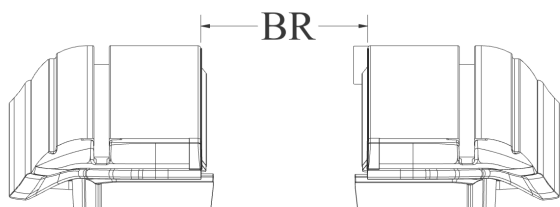
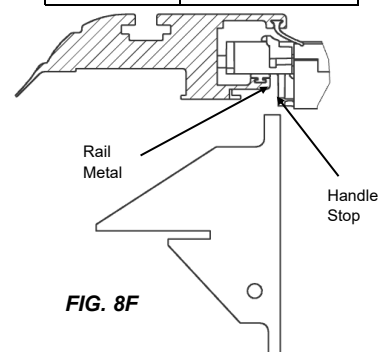

FIG. 8C
FIG. 8F
Now tighten your clamp turn knobs hand tight. Finally, check for proper spacing by measuring between the rails by attempting to insert the BR Gauge in between the rail metal and the handle stop (FIG 8F). You can also check the between the rail measurement at the canister and the tailgate end of the rails. The measurements should be equal to or less than those in Figure 8C. The Clamp Extensions have been pre-installed with brackets and shims to achieve the proper Between the Rail dimension (BR) when placed on an average factory truck bed. However, not all truck beds are average dimensionally and some have optional plastic caps or over the rail spray-in liners.